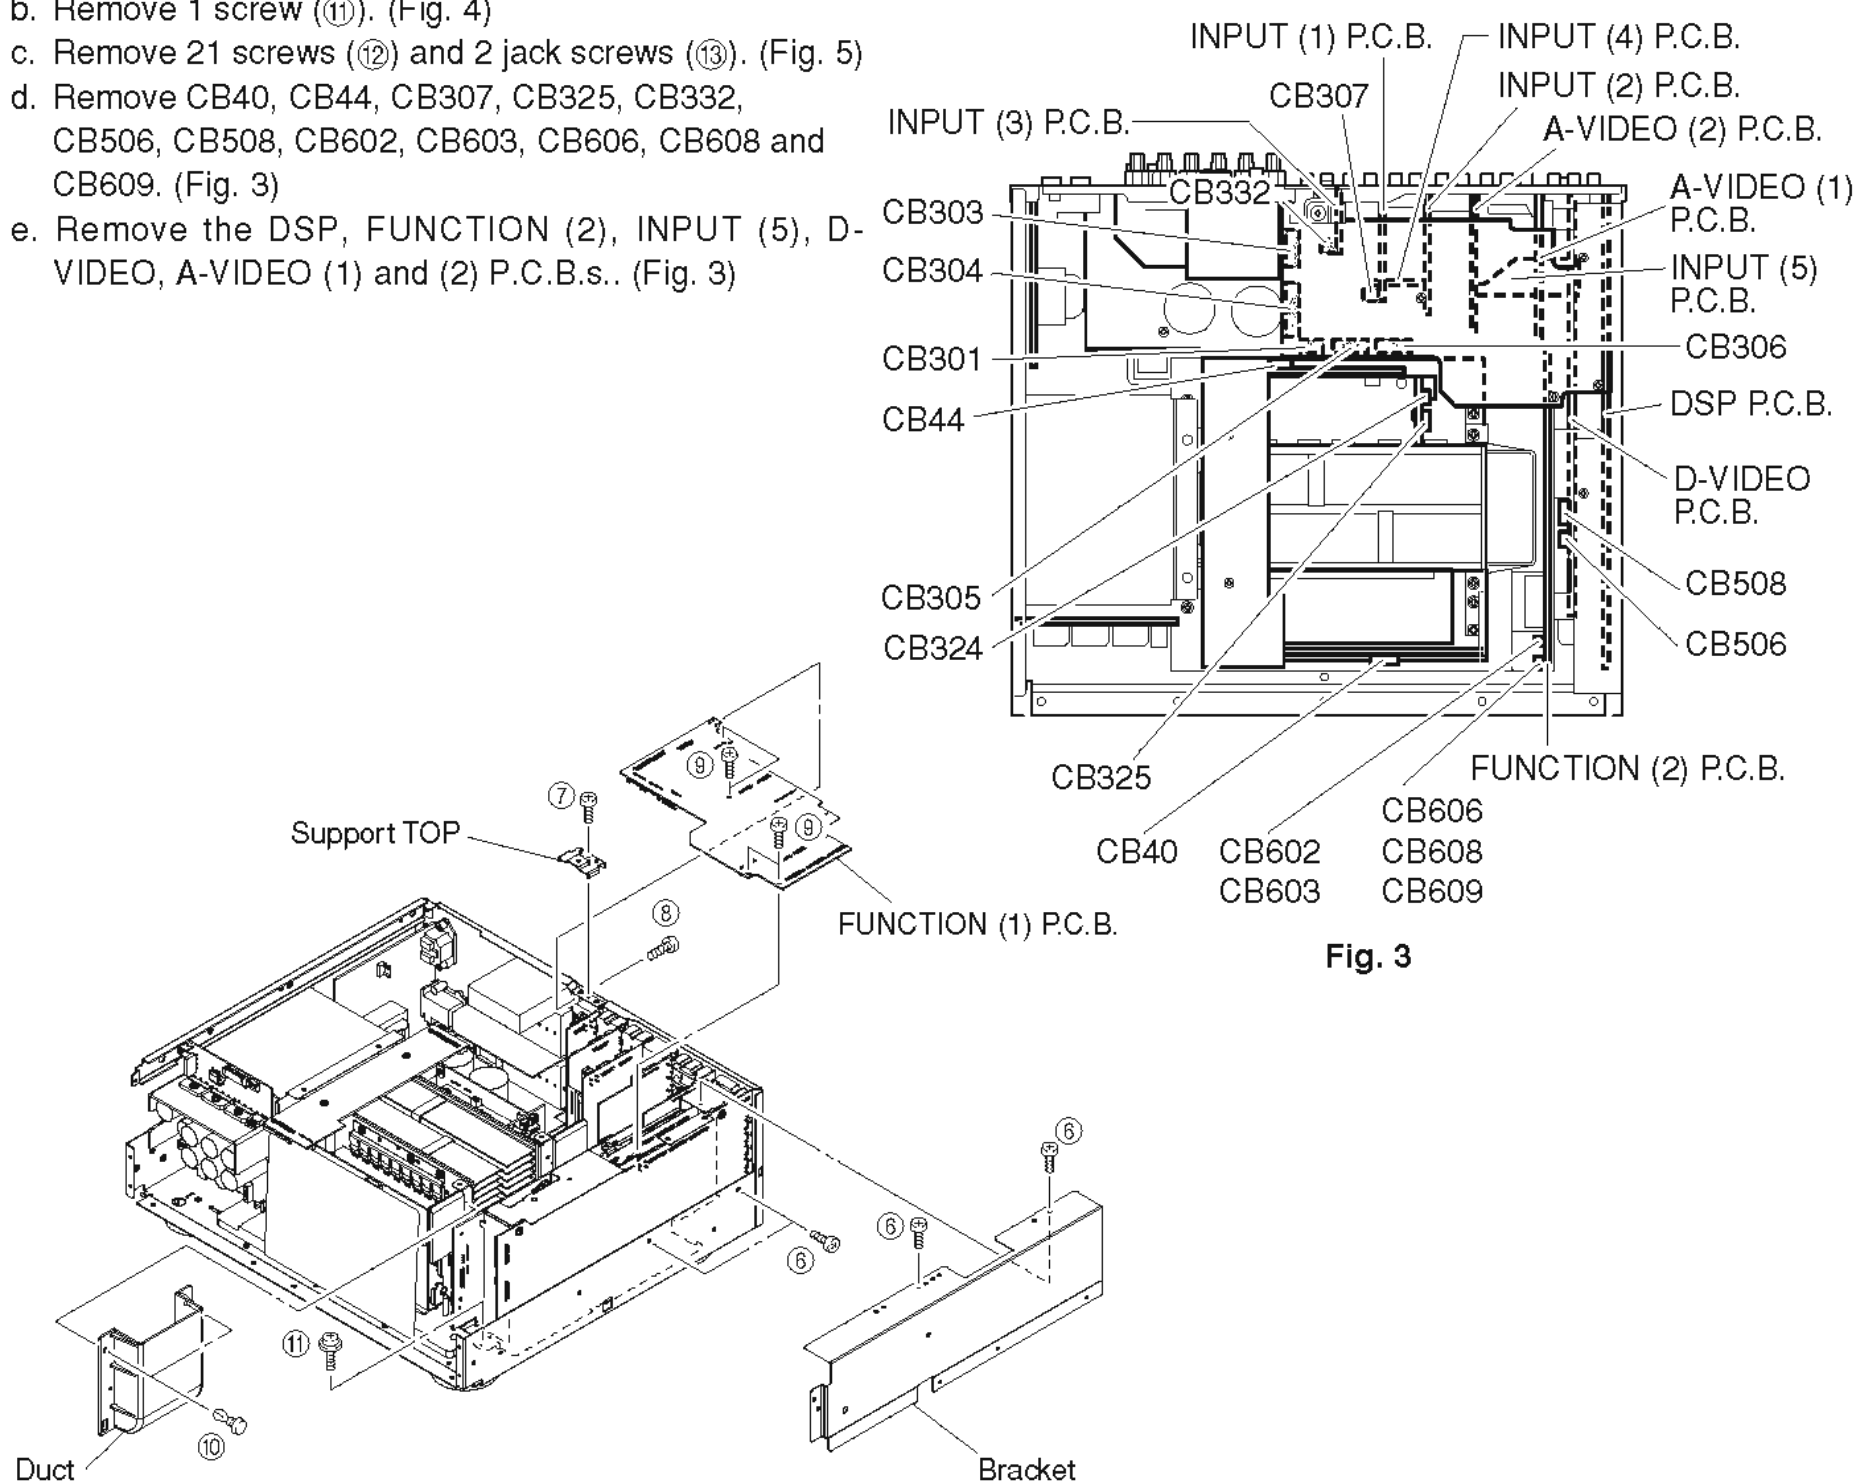
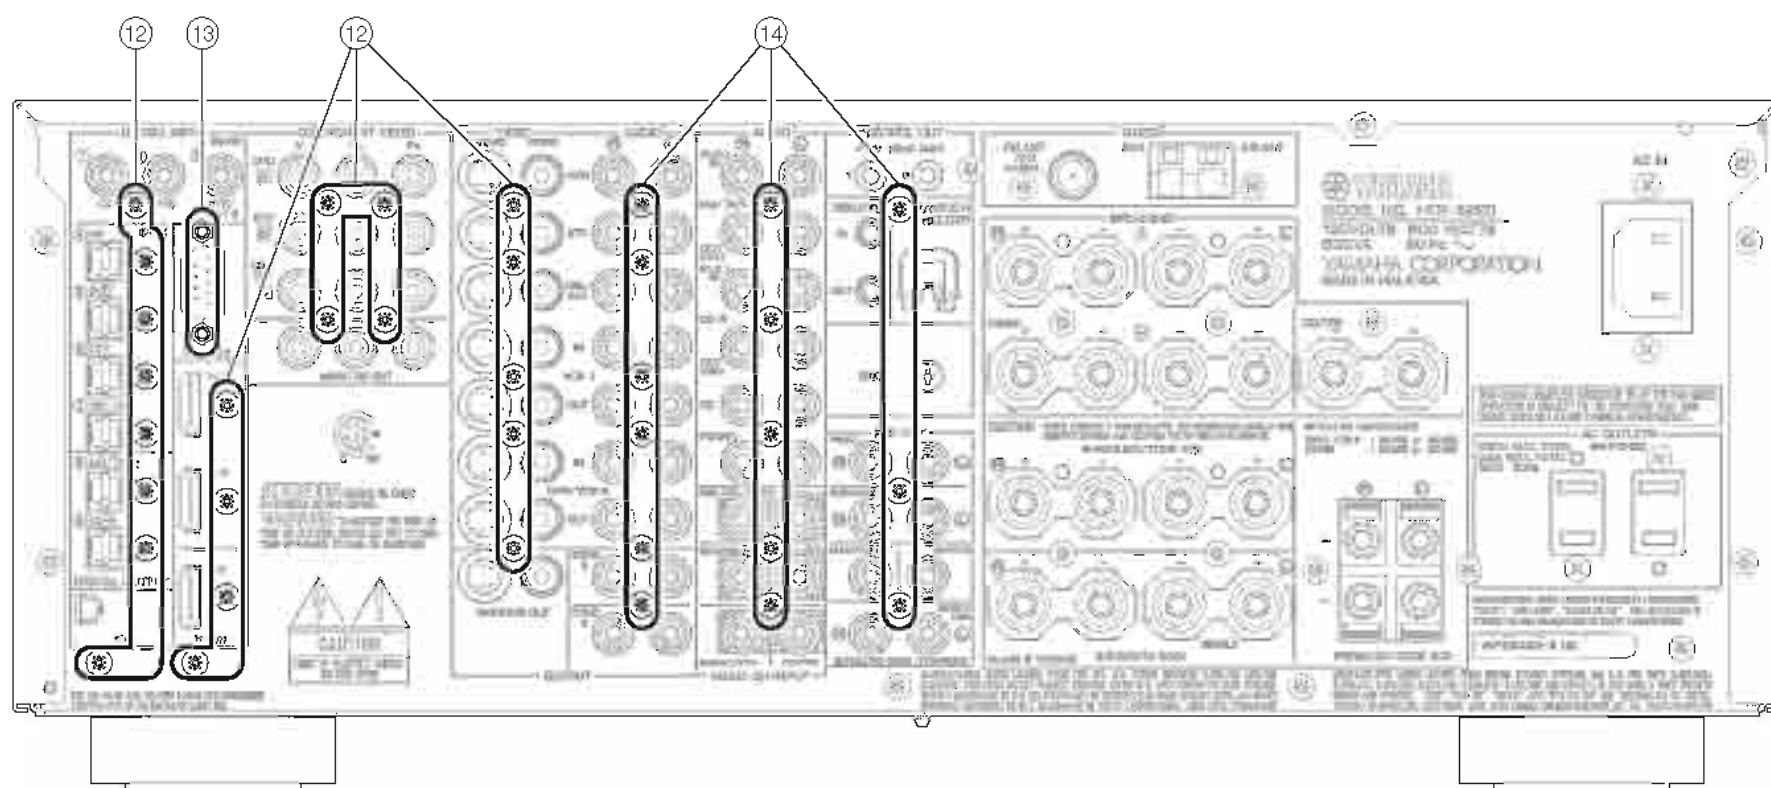

Fig. 3
Fig. 5
- d. Remove CB301 and CB303 ~ CB306. (Fig. 3)
- Remove 21 screws (12) and 2 jack screws (13). (Fig. 5)
- Remove CB40, CB44, CB307, CB325, CB332, CB506, CB508, CB602, CB603, CB606, CB608 and CB609. (Fig. 3)
- Remove the DSP, FUNCTION (2), INPUT (5), D-VIDEO, A-VIDEO (1) and (2) P.C.B.s.. (Fig. 3)
5. Removal of INPUT (1) ~ (4) P.C.B.s
- Remove 14 screws (14). (Fig. 5)
- Remove CB324. (Fig. 3)
- Remove the INPUT (1) ~ (4) P.C.B.s.. (Fig. 3)